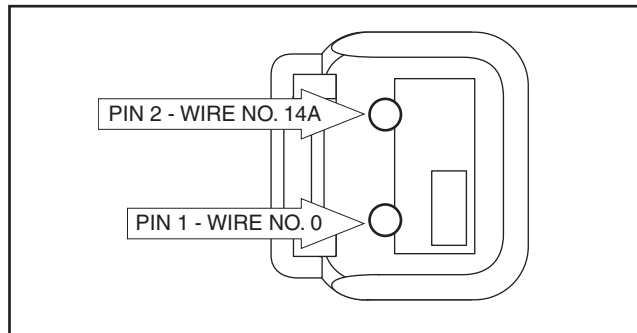

Figure 7-12. – Harness End of Connector 2
5. For gasoline models, disconnect Connector 2 at the Fuel Pump. Connect the VOM positive (+) test lead to Wire 14A, (Pin 2 of Connector 2) going up to the Control Panel (see Figure 7-12). Connect the VOM negative(-) test lead to frame ground. Repeat Steps 4a and 4b. Battery Voltage should be measured when the Primer Switch is activated.